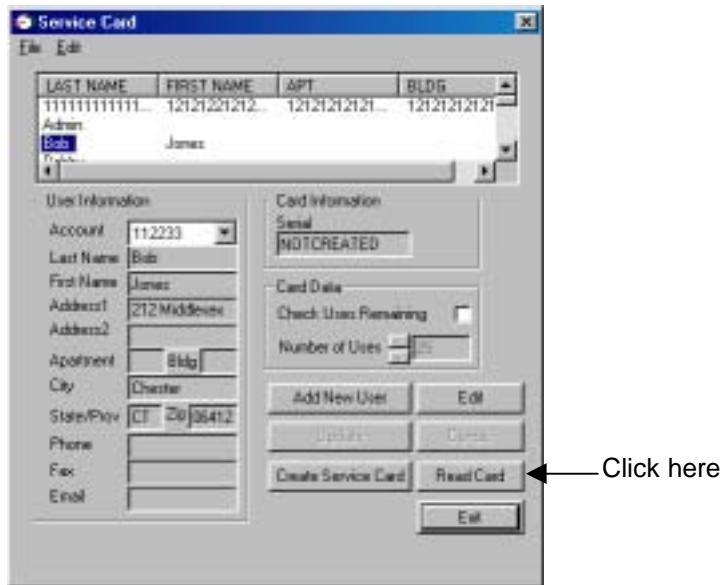

Figure 13.4 Reading a Service Card
3. Click the Read Card button (Figure 13.4)